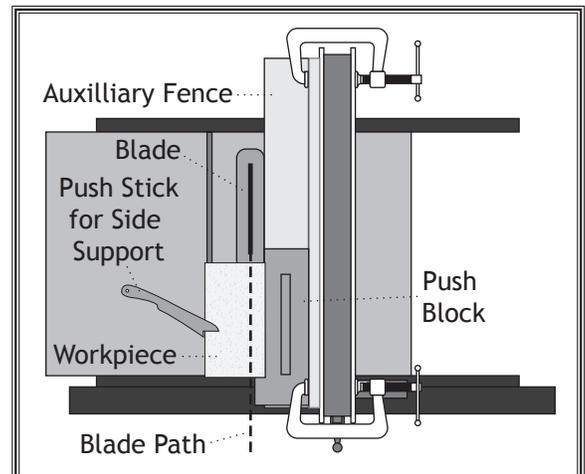

Figure 94. Push block in position to push workpiece through blade.
3. Place workpiece 1" behind blade and evenly against table and auxiliary fence (see **Figure 94**).